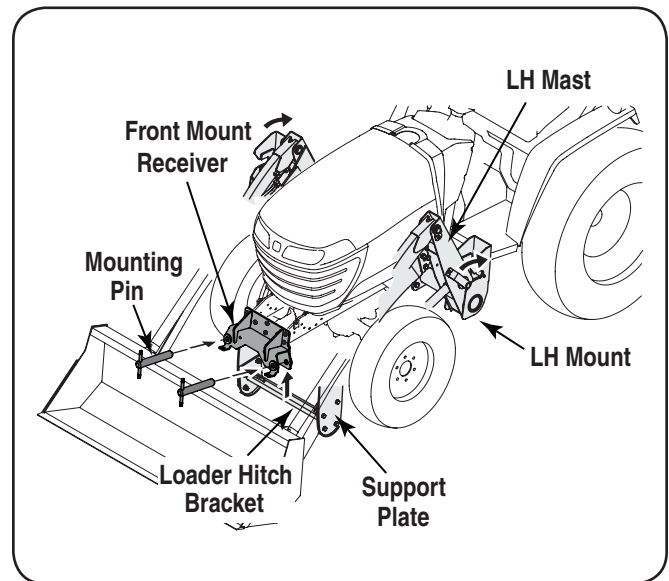

Figure 9
- While observing the base of the masts, slowly push the implement control lever forward to lower the boom, and to the right to dump the bucket. Drive the tractor forward (as needed) to settle the masts onto the tubular bars of the RH and LH mounts. Refer to Figure 9.
- When the masts are firmly settled into the tower mounts, continue to slowly push the control lever forward, and to the right, to raise the loader hitch bracket upward into the front mount receiver. As the loader hitch bracket is raised, the boom cylinder pivot pins should also rotate back into the notches of the RH and LH mounts. Refer to Figure 9. Drive the tractor forward as necessary.
- Withdraw the two mounting pins that secure the loader hitch bracket in the front receiver. Refer to Figure 9.
- Continue raising the boom until center points of the support plates on the bottom of the loader hitch bracket are resting on the ground, the loader hitch arms and bucket are supporting the weight of the loader, and the bottom of the RH and LH masts have lifted off the tubular bars of the RH and LH mounts. Refer to Figure 9.
- Remove the two lynch pins and withdraw the mounting pins from the front mount receiver. Refer to Figure 9.
- When the masts are firmly settled into the RH and LH mounts, continue to slowly push the control lever forward, and/or to the right, to raise the loader hitch bracket upward into the front mount receiver. As the hitch bracket is raised, the boom cylinder pivot pins should also rotate back into the notches of the RH and LH mounts. Refer to Figure 9. Drive the tractor forward as necessary.